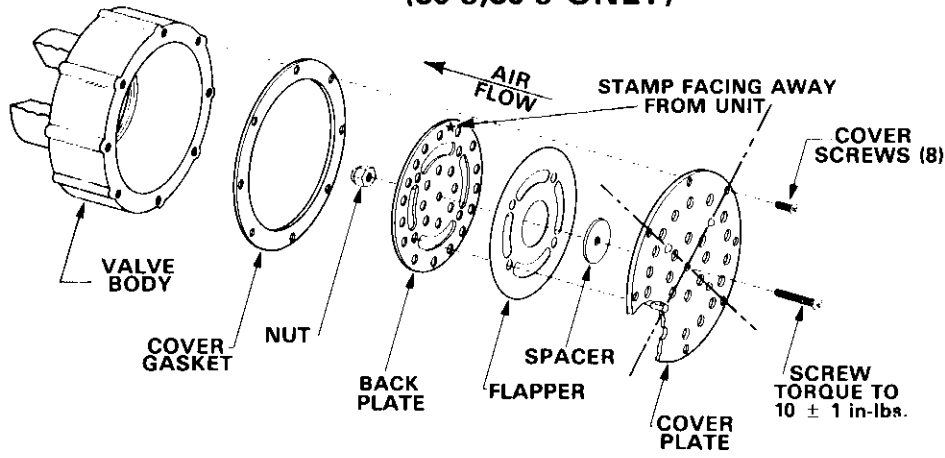

FIGURE 33
- c. DO NOT DISASSEMBLE THE INTERNAL COMPONENTS OF THE VALVE. If taken apart, the plates can be rotated out of phase or reversed and the spacer thickness has an extremely low tolerance. Note that each plate has a stamp of the spacer thickness, a star or the words 'THIS SIDE OUT' stamped on each plate. These stamps should all lie in the same quadrant (Figure 33) and face the outside of the unit.
- e. For models Q3,4-50,80 ONLY: AIR FLAPPER VALVES FOR THESE UNITS REQUIRE A GASKET BETWEEN THE VALVE AND VALVE BODY for proper operation (see Figure 33). To find potential warpage in the plates, check for the required clearance between the flapper and back plate in several places around the circumference of the valve. Use a feeler gauge, starting small and working up to the clearance dimension until the gauge is just about snug. BE VERY CAREFUL NOT TO DAMAGE THE FLAPPER MATERIAL BY FORCING THE FEELER GAUGE.